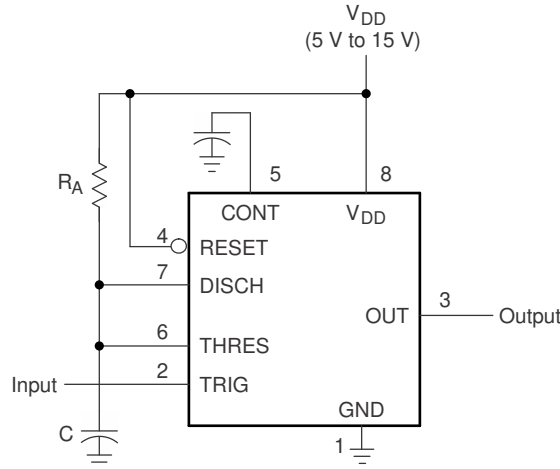
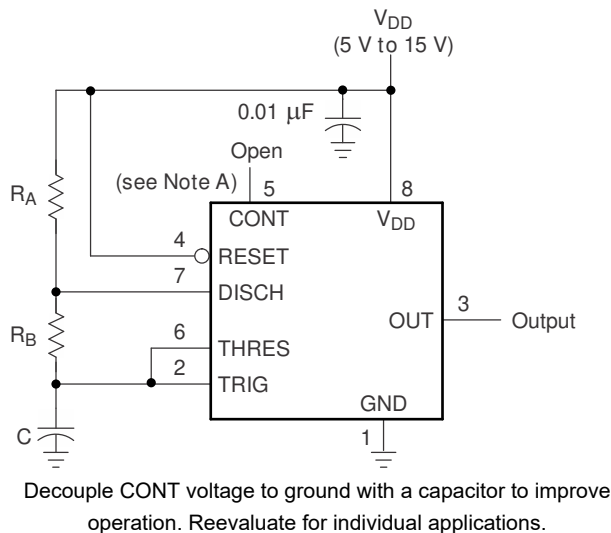

Figure 6-2. Circuit for Monostable Operation
Figure 6-5. Circuit for Astable Operation
(1) R_A , R_B , and C_T are as defined in Figure 6-5.
For monostable operation, Figure 6-2 shows how any of these timers can be connected. If the output is low, application of a negative-going pulse to the trigger (TRIG) sets the internal latch; the output goes high, and discharge pin (DISCH) becomes open drain. Capacitor C then is charged through R_A until the voltage across the capacitor reaches the threshold voltage of the threshold (THRES) input. If TRIG has returned to a high level, the output of the threshold comparator resets the internal latch, the output goes low, the discharge pin goes low, which quickly discharges capacitor C.
$R_A = 9.1 \text{ k}\Omega$ $C_L = 0.01 \text{ }\mu\text{F}$ See Figure 6-2
As shown in Figure 6-5, adding a second resistor, R_B , to the circuit of Figure 6-2 and connecting the trigger input to the threshold input causes the timer to self-trigger and run as a multivibrator. The capacitor C charges through R_A and R_B and then discharges through R_B only. Therefore, the duty cycle is controlled by the values of R_A and R_B .
By adjusting the length of the timing cycle, the basic circuit of Figure 6-2 can be made to operate as a frequency divider. Figure 6-9 shows a divide-by-three circuit that makes use of the fact that retriggering cannot occur during the timing cycle.
See Figure 6-2